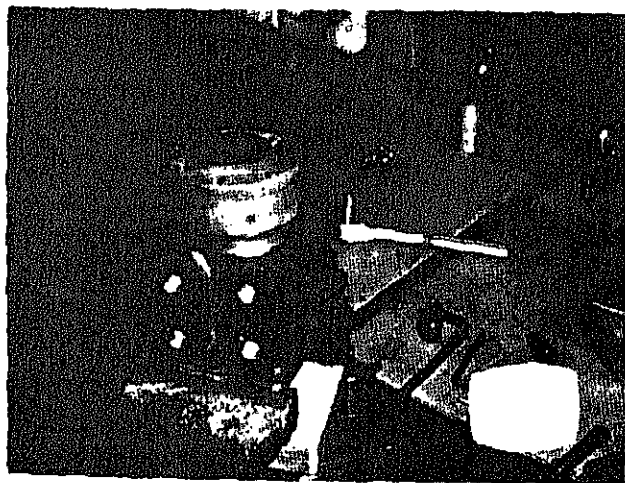

FIGURE 9-62.
u. Place the spacer in position within the end of the meter gear star (see figure 9-61). If the spacer does not drop flush with the gear surface, the drive has not properly engaged the cross pin - **RECHECK**. Place the meter end cap over the assembly and install two (2) capscrews, finger tight, to maintain alignment of the parts (see figure 9-62). Install all seven capscrews and bring them gradually and evenly to 12.5 ft.-lbs. (1.728 kg-m) (see figure 9-63).